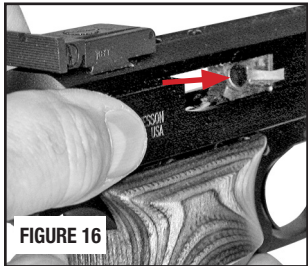

FIGURE 16
- Do not obstruct the ejection port because doing so can interfere with ejection of a cartridge (FIGURE 16).